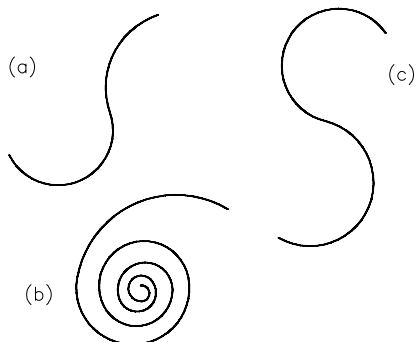

Figure 3-21 Drawing for Exercise 5(a)
- Use the **Center**, **Start**, **Angle** and **Continue** options to draw the figures shown in Figure 3-21.